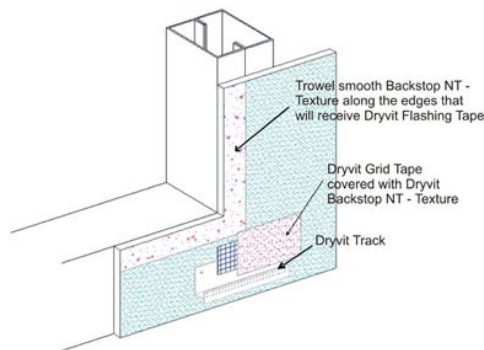

Fig. 18
- i. For concrete and masonry, ensure that a continuous film of uniform thickness is applied across the entire surface and across mortar joints. Minimum two (2) coats are required allowing a minimum of two (2) hours between coats. Cool, damp weather may require longer time between coats.
- d) While the Backstop NT - Texture is still wet, using a trowel or spatula, smooth out the Backstop NT - Texture around all window and door perimeters and other areas that will later receive Dryvit Flashing Tape - Figure 18.
- d) While Backstop NT - Texture is still wet, using a trowel or spatula, smooth out the Backstop NT - Texture around all window and door perimeters and other areas that will later receive Dryvit Flashing Tape – Figure 18.